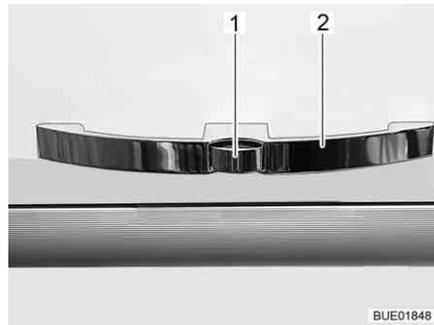

Fig. 39 Furniture flap with handle (example)
- Press the release knob (Fig. 39,1) on the handle (Fig. 39,2) and hold it down.